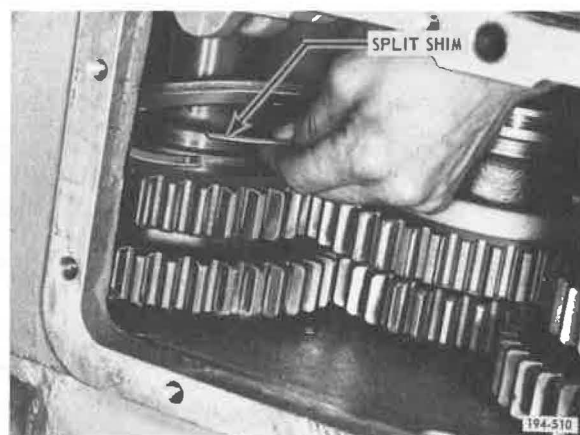

Figure 383. Installing Shims
19. Install existing split adjusting shims between the three front compound countershaft Lo-range gears and their gear retaining thrust washers. See Figure 383.